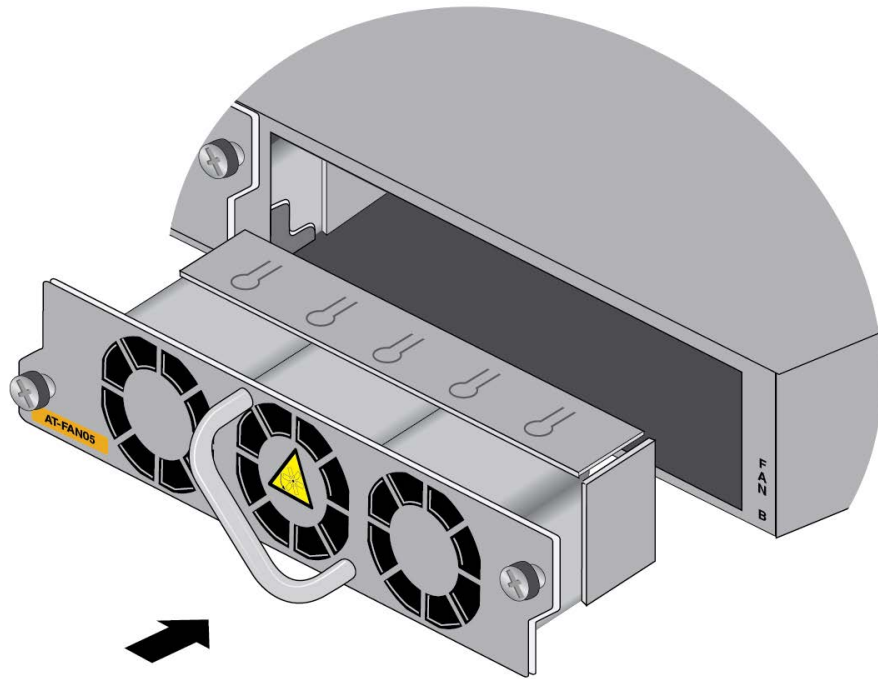

Figure 160. Aligning the FAN05 Module in the Switch Slot
2. Align the fan module in the slot. Refer to Figure 160 on page 262.